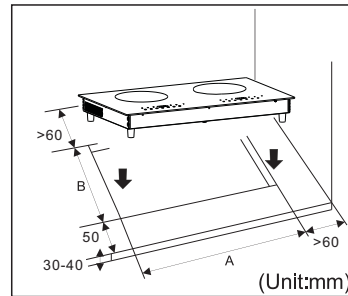

fig. 4.2
- There must be a distance of at least 650 mm between the hob and any wall cupboard or extractor hood positioned immediately above (see fig. 4.2)